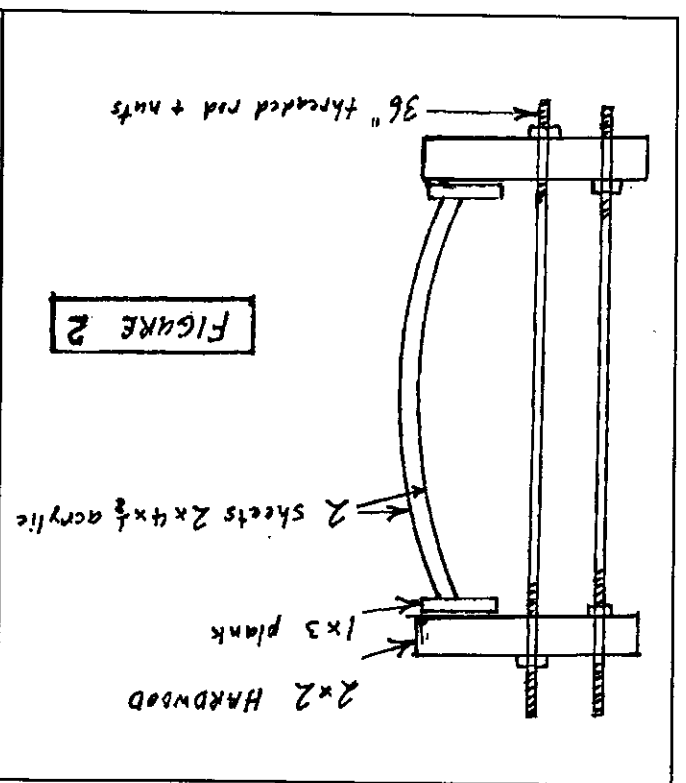

FIGURE 2
a) Two large clamps are required. They are made of threaded rod, wing nuts, and wood (Figure 2).